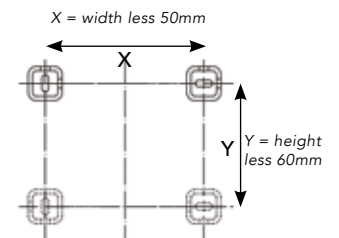

**Fig 2**
1. Mark bracket positions as per *Fig. 2*, measure the width (X) of the radiator less 50mm and the height (Y) of the radiator less 60mm to find your four fixing positions for the Wall sleeves.